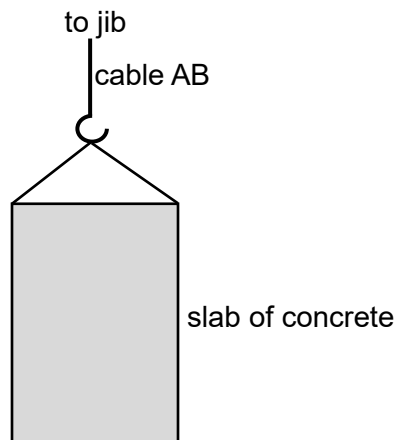

Fig. 2.2
- (c) The load is a rectangular slab of concrete. Fig. 2.2 shows how the slab of concrete is hooked to cable AB of the jib.